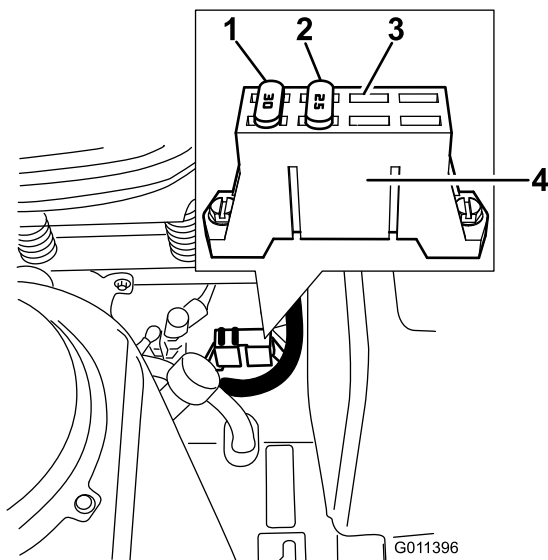

Figure 50
1. The fuses are located on right hand console next to the seat (Figure 50).
3. Install a new fuse (Figure 50).